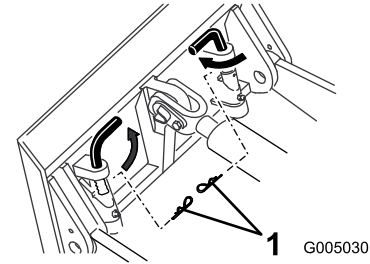

Figure 9
- Some older model traction units have holes through the spring and quick-attach pins on the mount plate (Figure 9) to allow you to install 2 hairpin cotters when plowing long runs. This ensures that the vibration of the plow does not cause the pins to come loose.